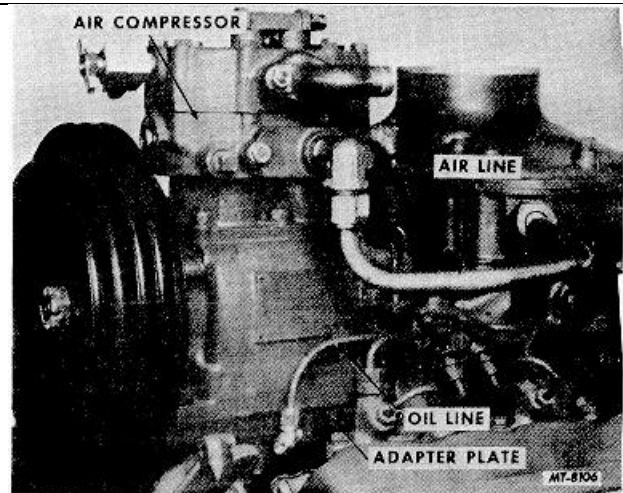

Fig. 27 Air Compressor Air and Oil Lines
13. Disconnect the air line from air compressor to crossover or air cleaner adapter plate (Figure 27). Also disconnect oil line at air compressor adapter plate (Figure 27).